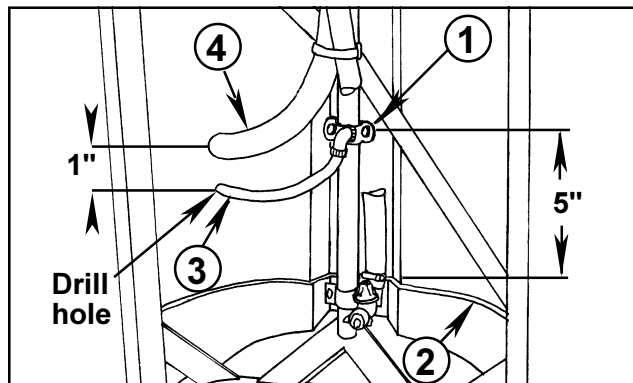

FIG. 17
1. The installation of the Foam Marker with the **EXTENSION BOOM** on the **MULTI-PRO® 1100** requires that the **9/32"** hole, which must be drilled in the Right and Left Boom Pipes, be located on the **bottom** side of the tube **5" over from the hood opening** as per FIG. 17.